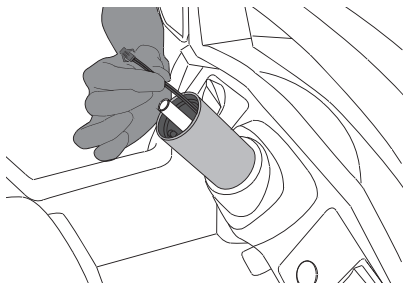

Figure 3
- Place the steering column, with the open end up, over the steering bar while threading the horn wire through the steering column. See figure 3.